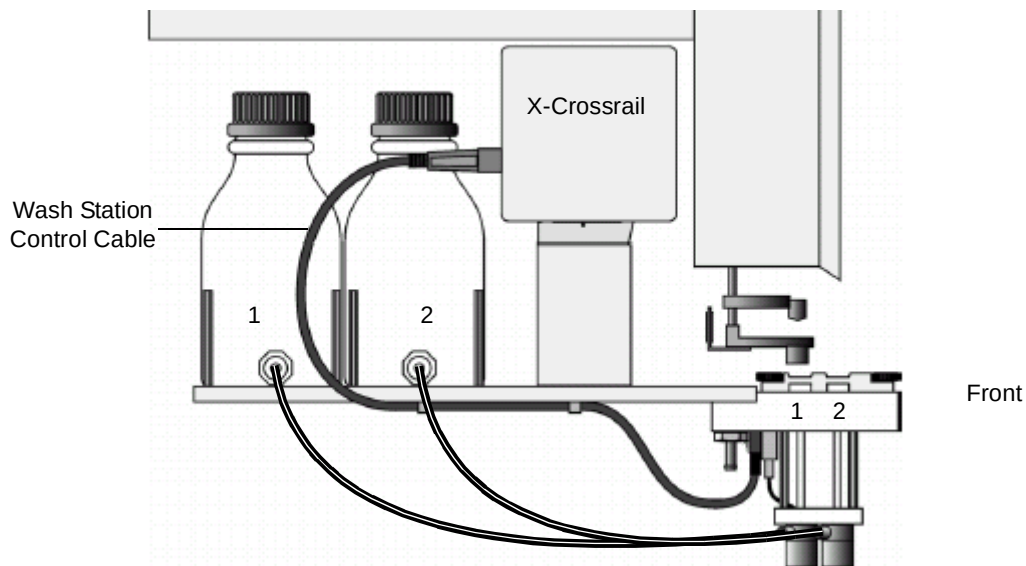

Figure 2-14 Connecting the Control Cable for the Wash Station Module
10. Connect the control cable between Interface 2 (on the rear of the X-crossrail) and the four-pronged connector on the wash station module (Figure 2-14).